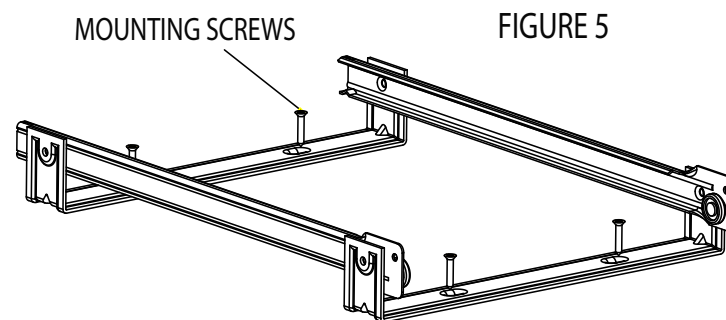

FIGURE 5
Step 5: Pull the caddy out of the slides about 2" and fasten rear mounting strap to the cabinet floor with mounting screws provided. Remove the caddy from the frame and then attach the front mounting strap to the cabinet floor (as shown in Figure 5).